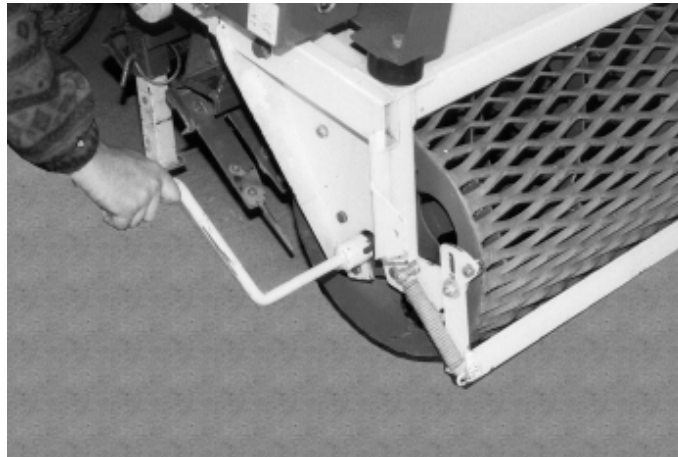

fig. 18
- Slide the crank handle onto the roller axle on the left in the running direction (Fig. 18):